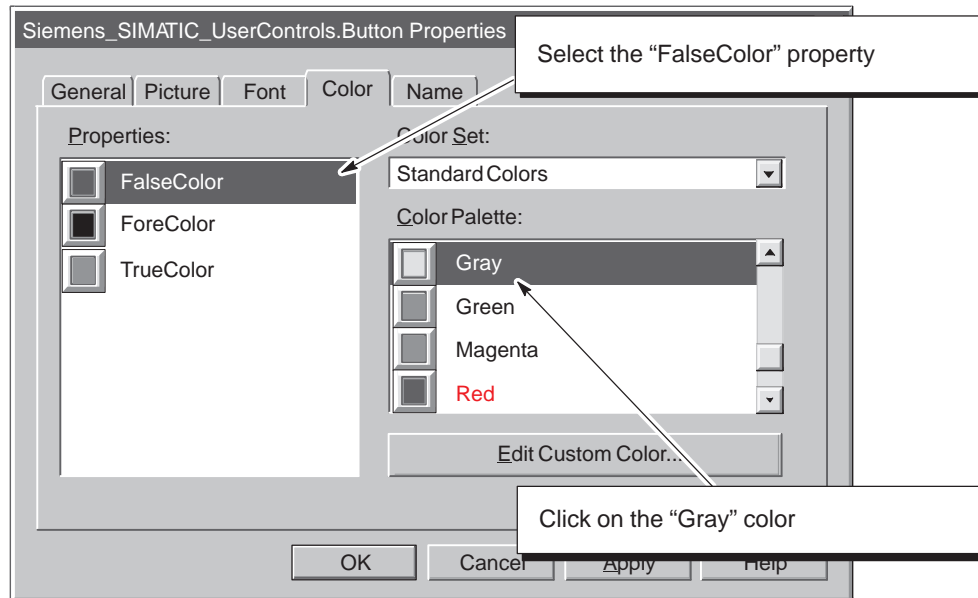

Figure 3-22 Configuring the False Color for Button1 (Button control 1)
8. Select (click on) FalseColor in the “Properties” box and click on the color Gray in the “Color Palette” box. See Figure 3-22.